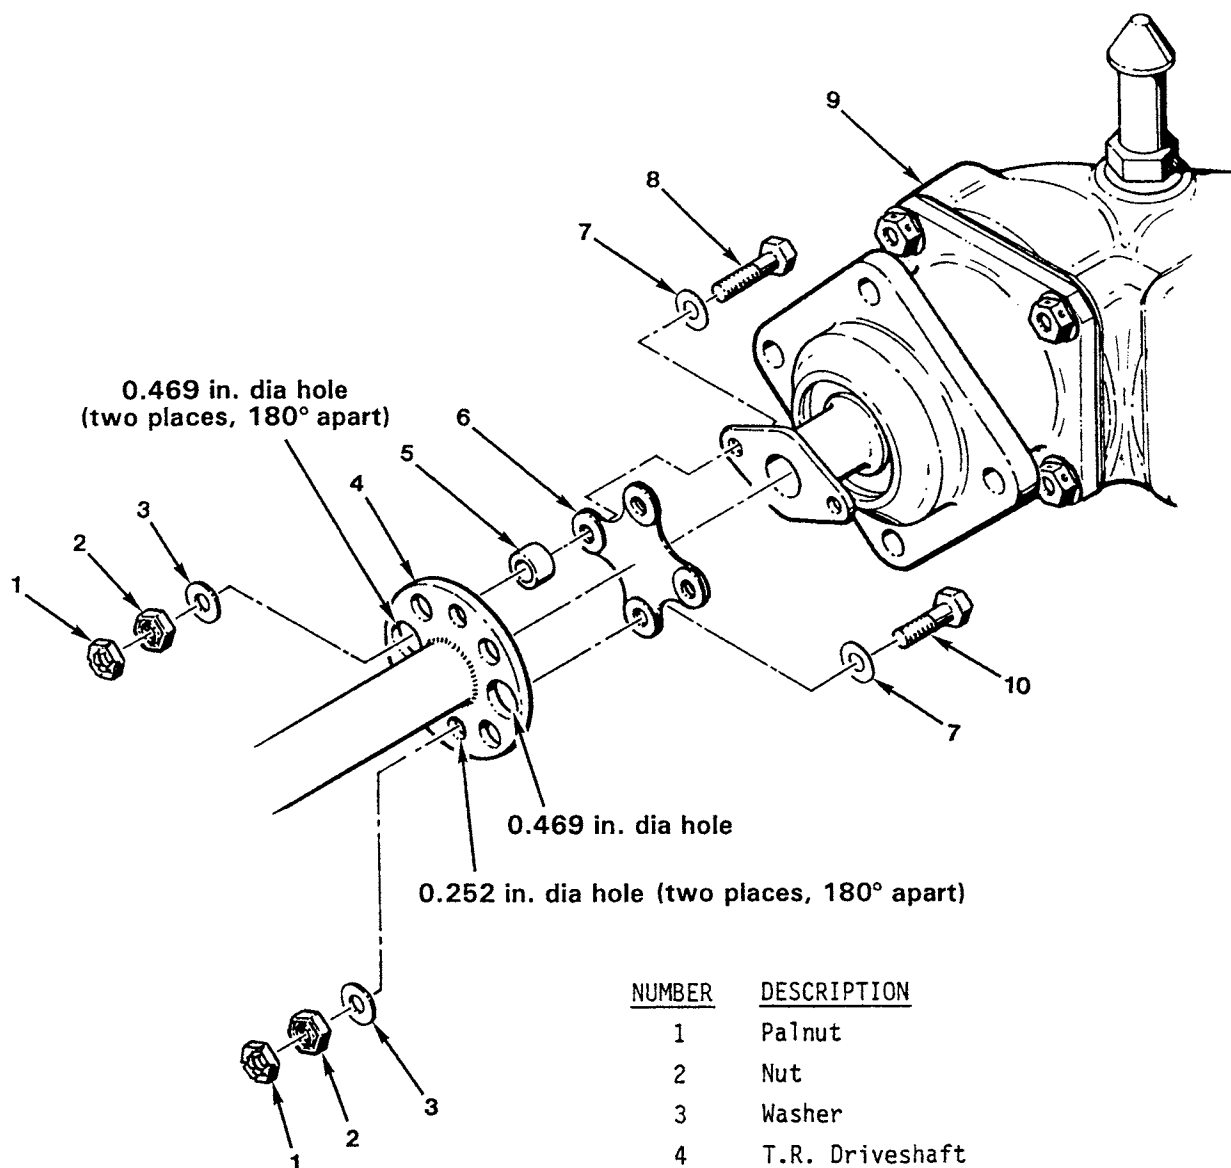

FIGURE 7-9
- b) Reconnect flex plate to tail rotor gearbox. Bonded washers on flex plate must be directly against flange of gearbox input shaft. Torque NAS1304 bolts per Section 1.320. (See Figure 7-9)